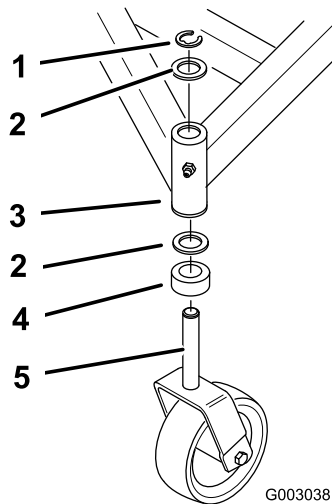

Figure 35
3. Remove the retaining ring and thrust washer(s) from the top of the castor wheel fork (Figure 35).
9. Inspect the caster wheel fork for wear and replace if necessary (Figure 35).
10. Slide the caster wheel fork through the bushings in the mounting tube. Replace the spacer(s) onto the fork and secure with the retaining ring (Figure 35).